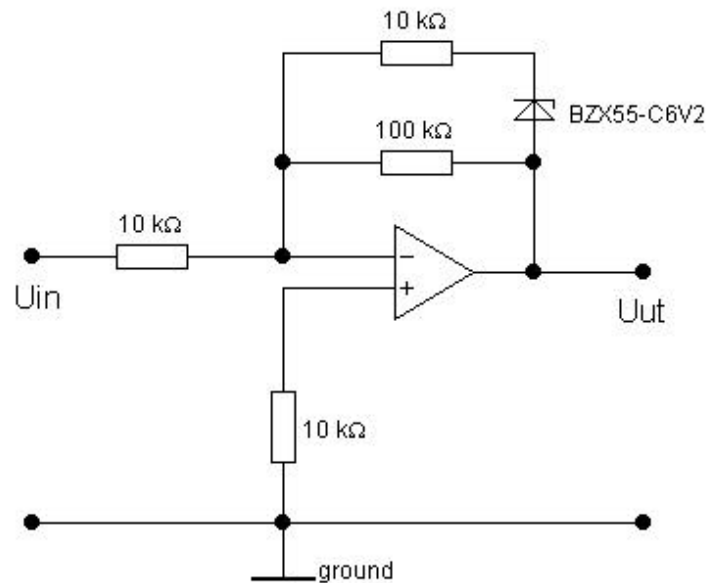

Figure 4.8
- b) Construct the circuit of Figure 4.8. If the Zener diode BZX55-C6V2 is not available, use any other Zener diode with a Zener voltage below 15 V.